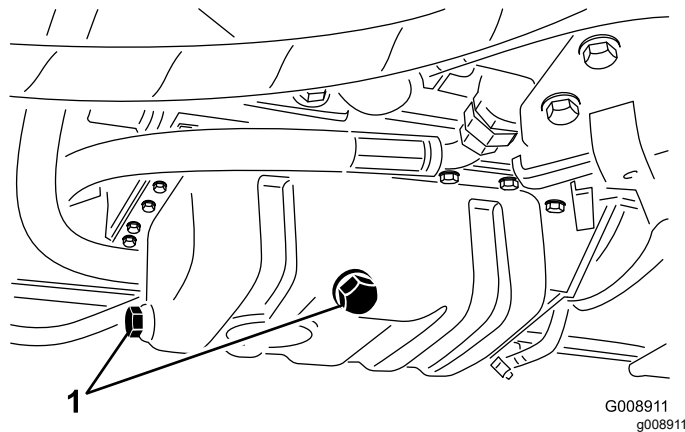

Figure 74
3. Remove either drain plug (Figure 74) and let the oil flow into a drain pan; when the oil stops flowing, install the drain plug.